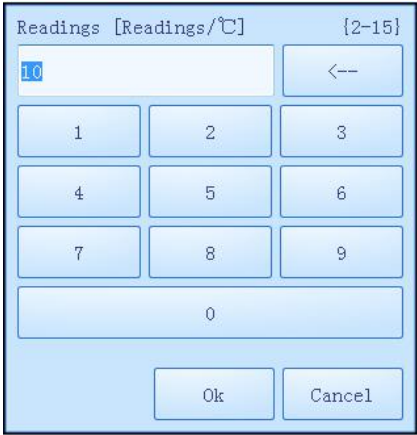

Figure E-3.9a Step Edit window - Continuous Melting step parameter setting
- ▶ Continuous melting stage allows the instrument system to read fluorescence more frequently, users can press the input boxes of **Readings** to set the fluorescence reading times per °C for the current continuous melting step, as shown in figure E-3.9a.